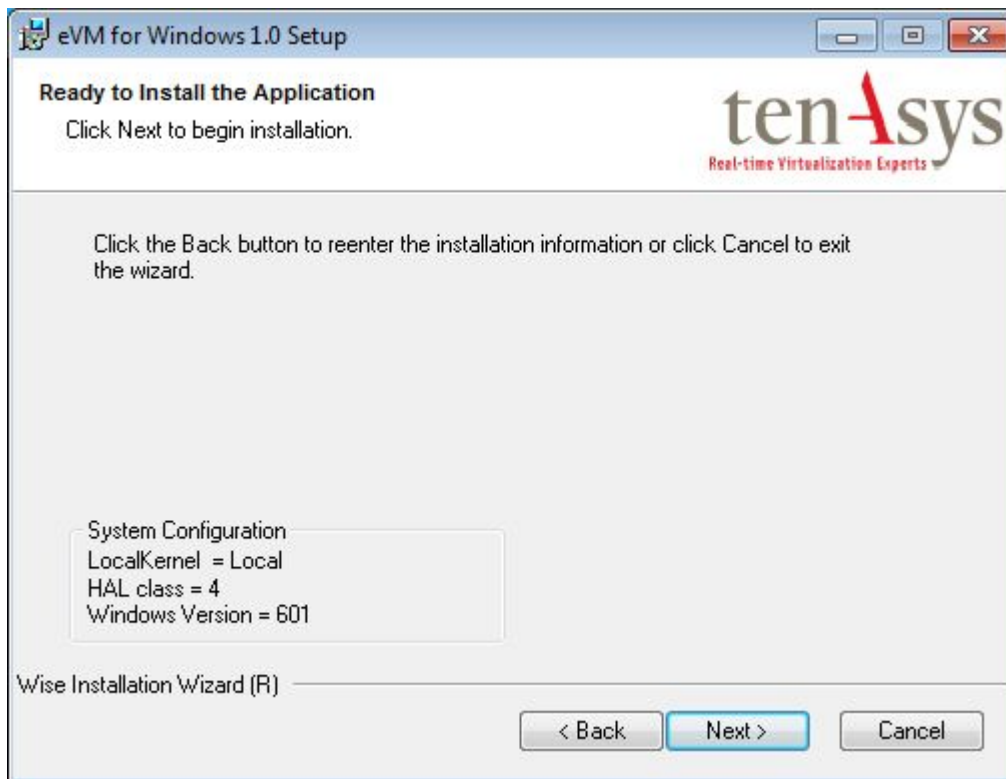

Figure 4.10 – eVM Installation Verification
9. When your activation code has been verified, the eVM Installation Wizard will then prompt you to confirm that you want to proceed with the installation, Figure 4.10. If you want to check or change anything at this point, you can click the **Back** button.